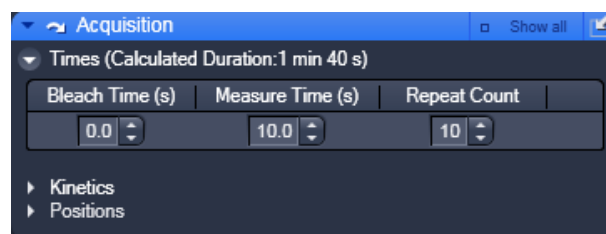

Fig. 9-36 Times panel
In the **Times** panel you can set the values for the **Bleach Time**, **Measure Time** and **Repeat Count** (Fig. 9-36).
- Click on the **Times** tab to open the **Times** panel (Fig. 9-36). Click again to close the panel.